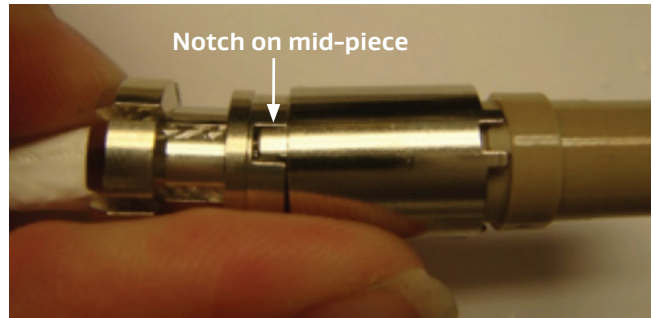

Figure 41: Seating the collet
16. Slide the collet down, and align it with the notch on the mid-piece (Figure 41).